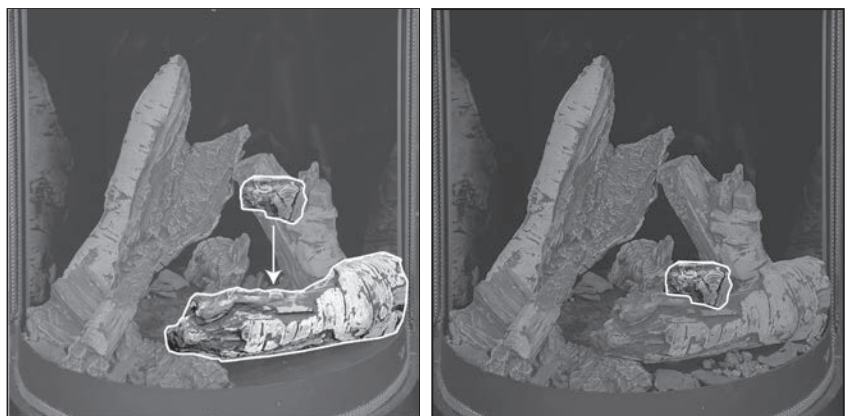

Figure 99: Step 8 - Log 8
**STEP 8:** Log 8 should notch onto Log 7 nicely. See Figure 99.